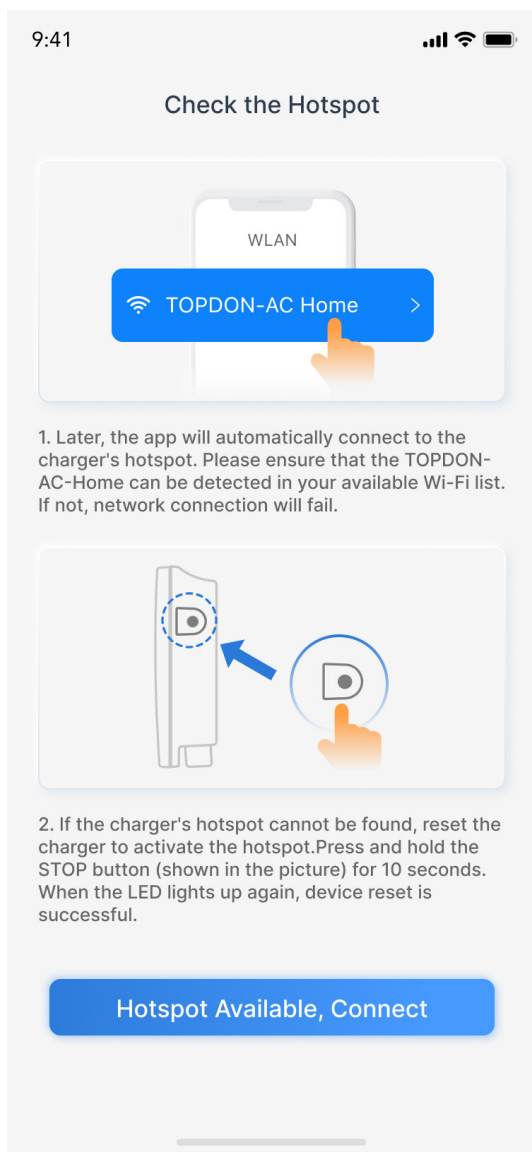

Fig.6.1.9
9. Ensure that the TOPDON-AC-Home can be detected in your available Wi-Fi list. Then, tap Hotspot Available, Connect. (See Figure 6.1.9)